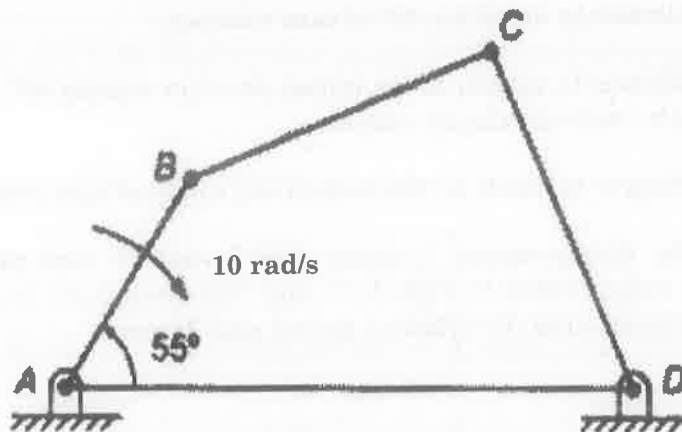

Figure 3
- Do these linkage follow Grashof's law? (5)
- Assemble the links in all possible combinations and sketch four inversions. (5)
- Estimate the minimum and maximum transmission angle for the first inversion. (3)
12. (a) In the four-bar mechanism shown in Figure 3, the lengths of the various links are: $AB = 190 \text{ mm}$, $BC = CD = 280 \text{ mm}$, $AD = 500 \text{ mm}$, input angle $\theta = 55^\circ$. The crank AB rotates at 10 rad/s in the clockwise direction. Determine (i) the velocities at B and C , and (ii) angular velocities of BC and CD . Indicate also the directions of angular velocities.